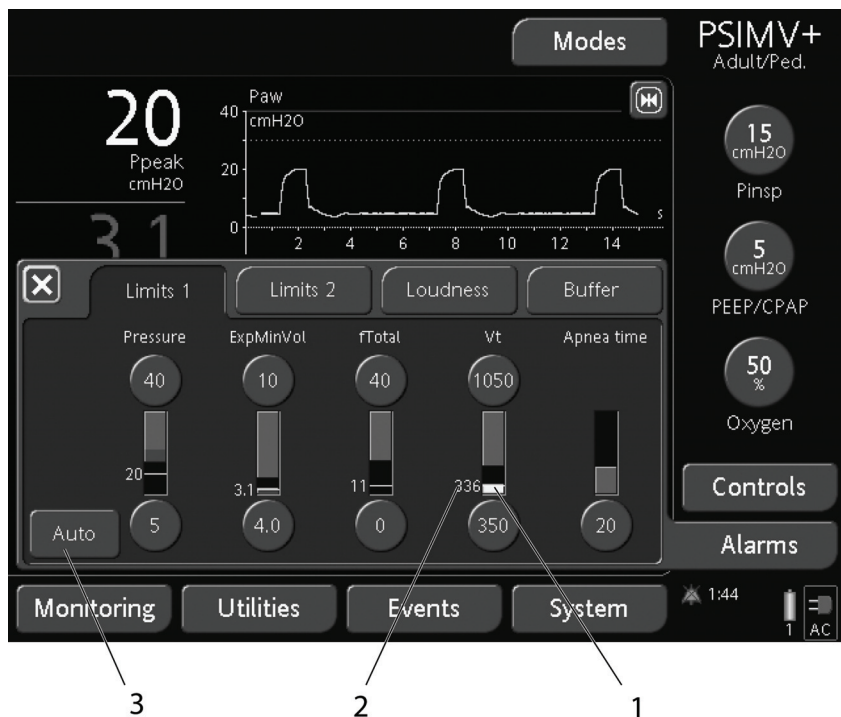

Figure 4-10. Limits 1 window
1. Open the **Alarms** -> **Limits1** window (Figure 4-10).